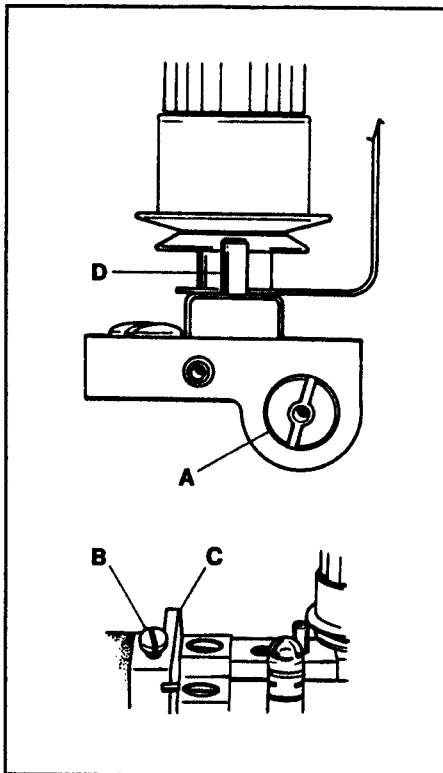

FIG. 36
The tension releaseshould start to function when the presser foot has raised approximately 1/32" (0.8mm) above the surface of the throat plate and be entirely released when the presser foot has reached its highest position. Insert a large screwdriver into slot on the right end of shaft (A, Fig. 36), loosen screw (B) in lifter lever (C) and turn the screwdriver to raise or lower pins (D). Tighten screw (B).